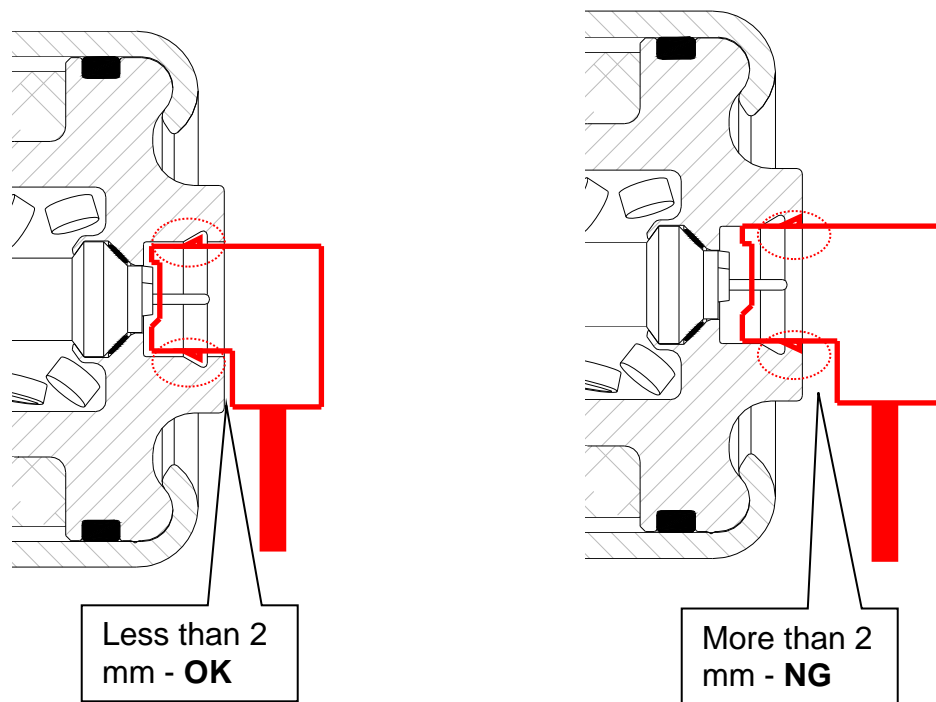

Figure S23
- Make sure the inflator connector is fully engaged / seated (see Figure S23).